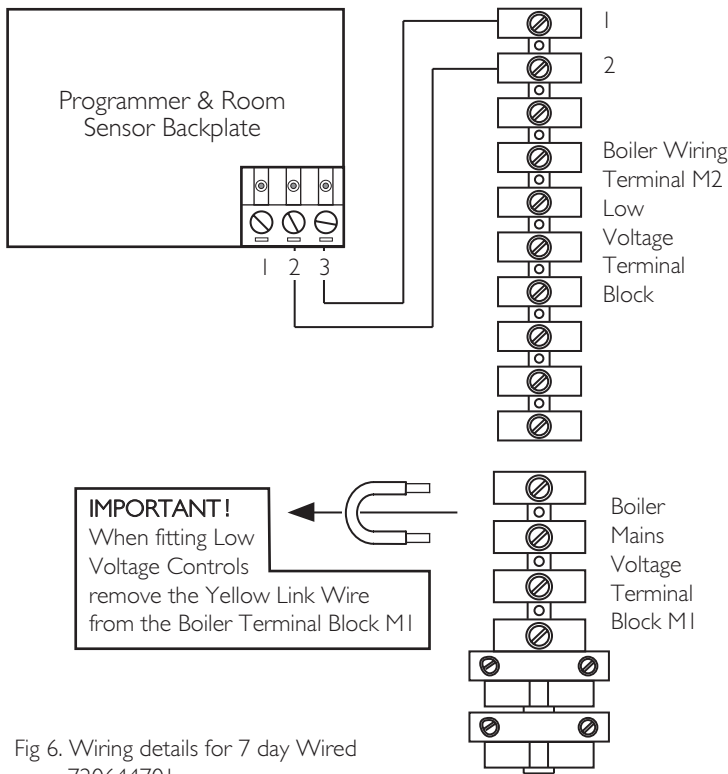

Fig 6. Wiring details for 7 day Wired 720644701
NOTE: The yellow link wire across terminals 1 & 2 on the Boiler terminal block 'M1' must be removed when fitting this Low Voltage control system. Fig. 6.
4. Pass the wires through the access slots in the backplate and wire the terminals as shown in Fig. 6.